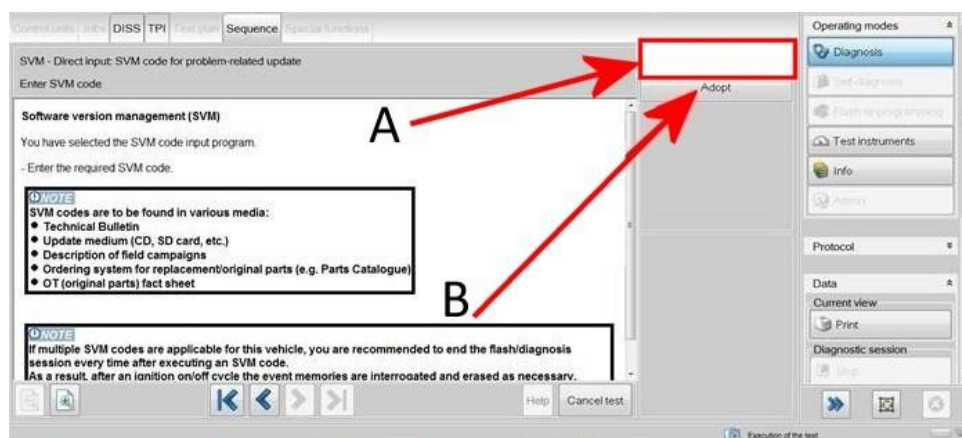

Figure 1
- Because of the highest transmission stability you **MUST** use the diagnosis interface VAS 6154 (WiFi diagnostic tool) **ONLY** in USB operation or the cable-connected VAS 5055 for the reprogramming (updating) of control units. If these units are not available, the diagnosis interface VAS 5054 (A) can also be used in USB mode
2. Referring to Figure 1 (Point A) enter the SVM code 4V0FFP01